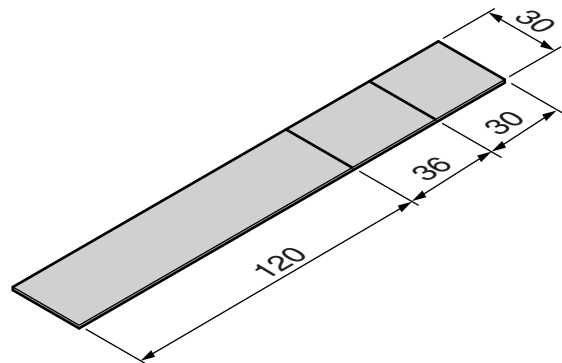

Fig. 11
- (b)** Fig. 11 shows one support marked out, ready to be bent to shape.